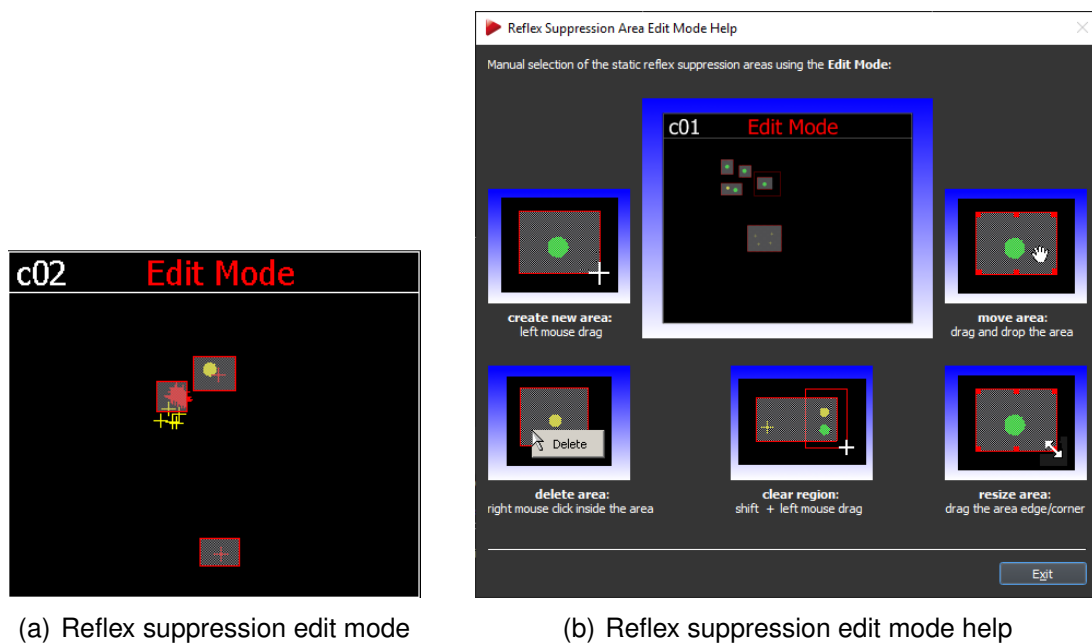

Figure 6.11: Reflex suppression Edit mode
**Edit reflection suppression areas** Within the edit mode (see figure 6.11(a) on page 50) you may: